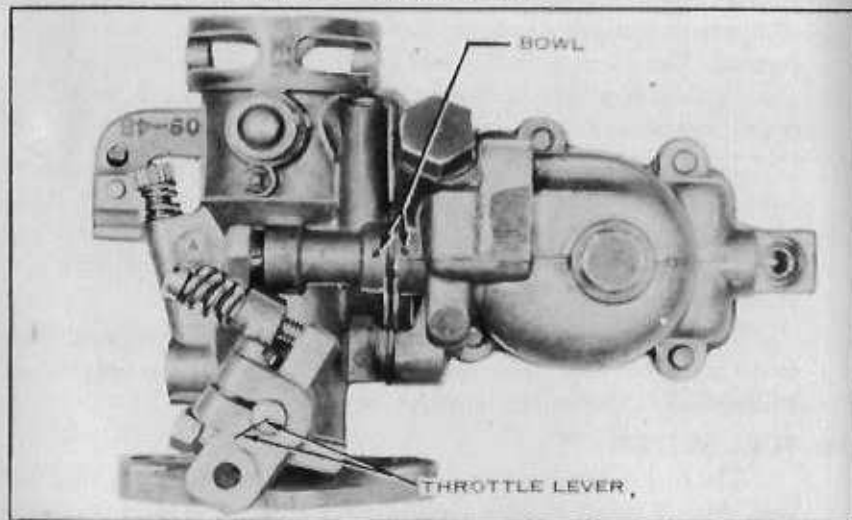

FIG. 45 WITNESS MARKS
The following routine should be followed in overhauling the carburetor after removing it from the engine. Before disassembling the carburetor, place light punch marks on the bowl and on the throttle body near one of the assembly screws. See Fig. 45. This will indicate the correct one of four different positions in which these two parts may be assembled.
- (12) Carefully mark the angular position of the throttle lever on the shaft by means of a straight scratch across the end of the shaft and across the arm. See Fig. 45. Loosen the clamp screw and remove the lever and spacing washers. Then remove the shaft from the opposite side of the body.
- (13) Remove the choker butterfly screws and lockwashers and the butterfly.